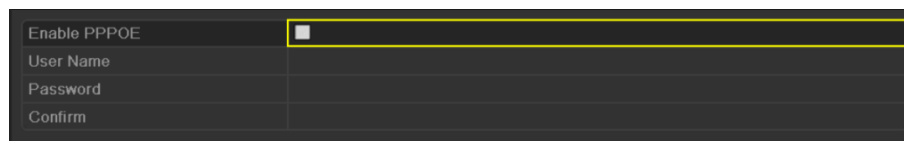

Figure 9.4 PPPoE Settings Interface
2. Select the **PPPoE** tab to enter the PPPoE Settings interface, as shown in Figure 9.4.